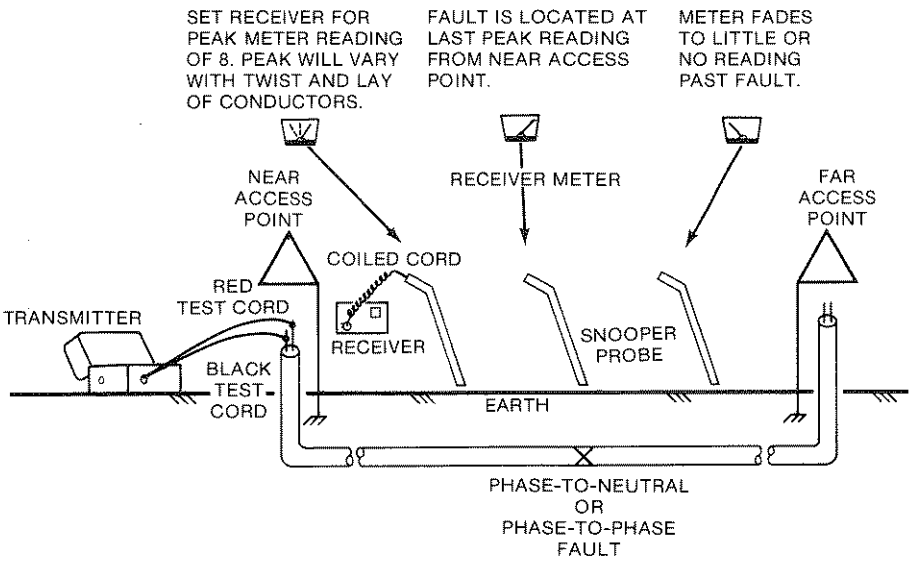

Figure 4-3.
4. Plug the jack end of the red/black test cord into the RED/BLACK TEST CORD jack-receptacle on the transmitter (see Figure 4-3).